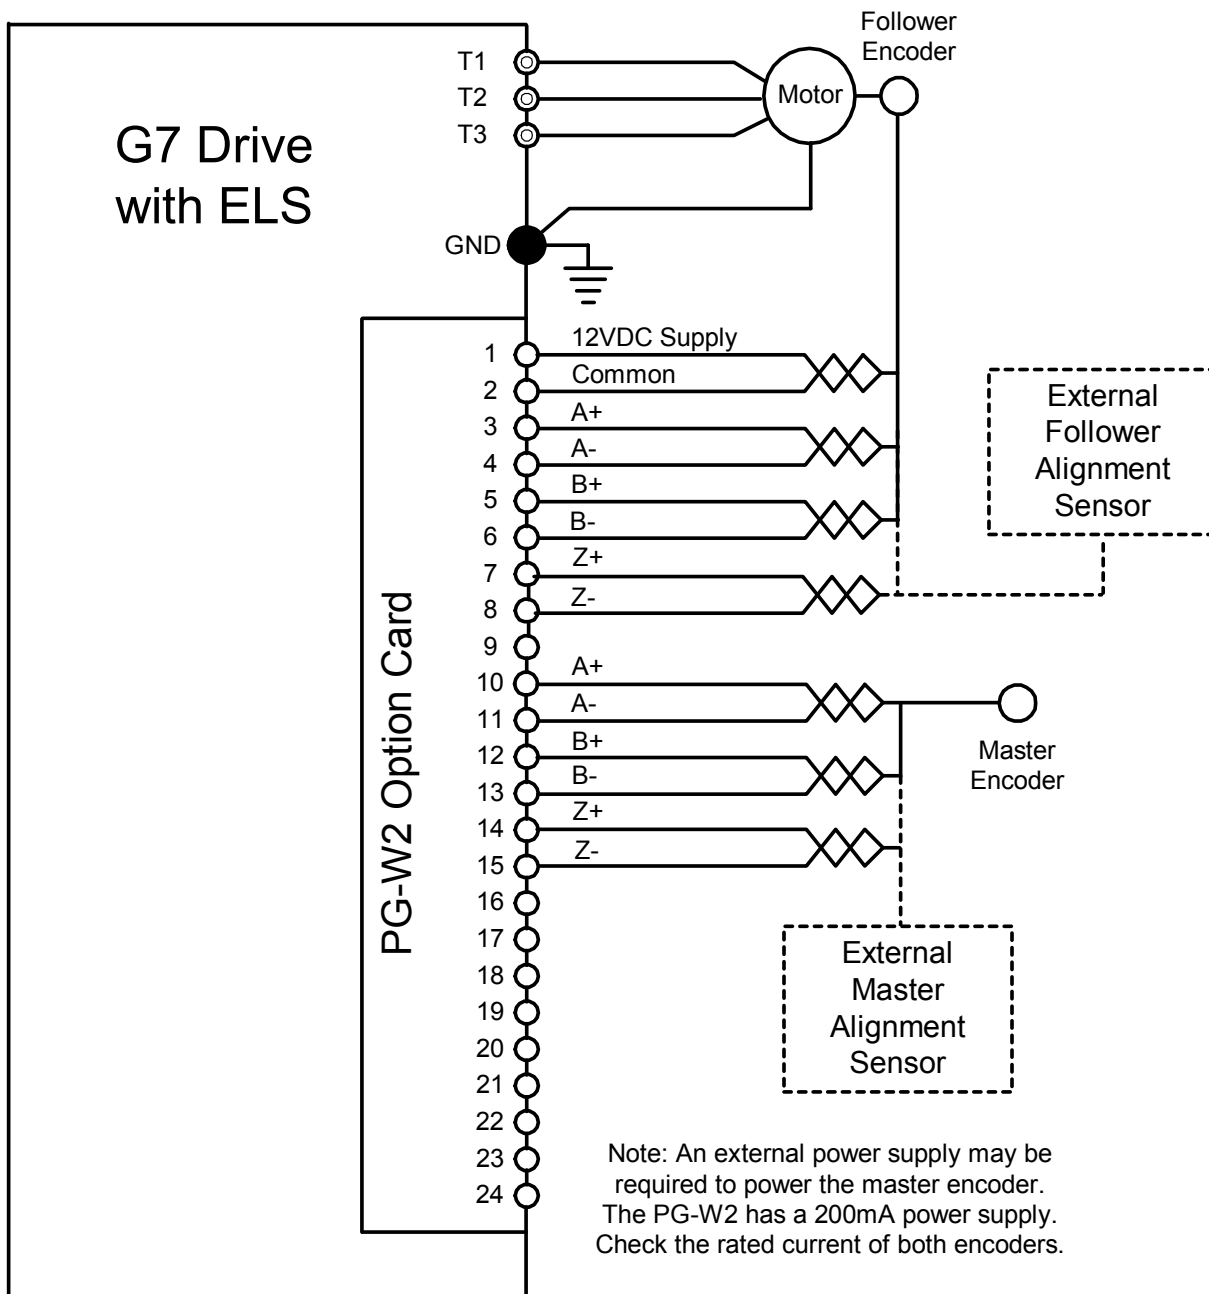

Figure 5: Wiring Example of ELS with Alignment
The two alignment inputs can each come from either the marker pulse from an encoder or from an external sensor. The alignment inputs need to be wired to the marker (Z) pulse inputs of the dual input encoder card (ex. PG-W2). Marker pulse input channels require a line driver type circuit. Wire the master alignment input into terminals 14 and 15 of the PG-W2. Wire the follower alignment input into terminals 7 and 8 of the PG-W2. For other dual input encoder cards, consult their installation guide for exact terminals. Figure 5 below details the wiring of the PG-W2 option card.